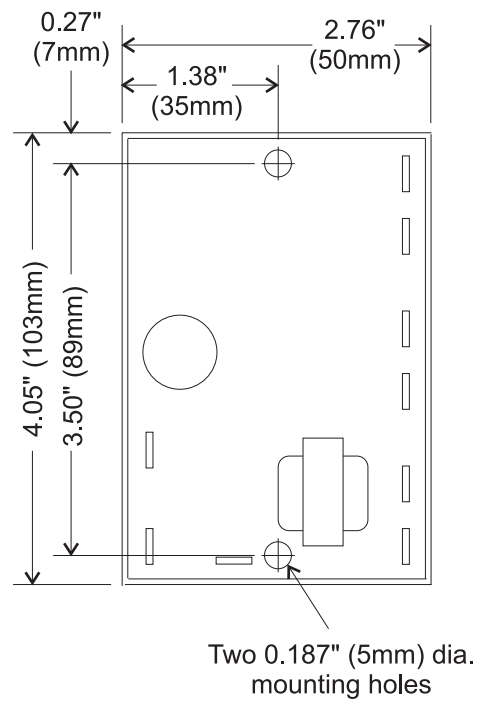

Figure 5
11. Insert the kit-supplied thermocouple into its mounting sleeve. Position the sleeve so that the mounting hole is at the base of the thermocouple, not the tip. See Figure 5.